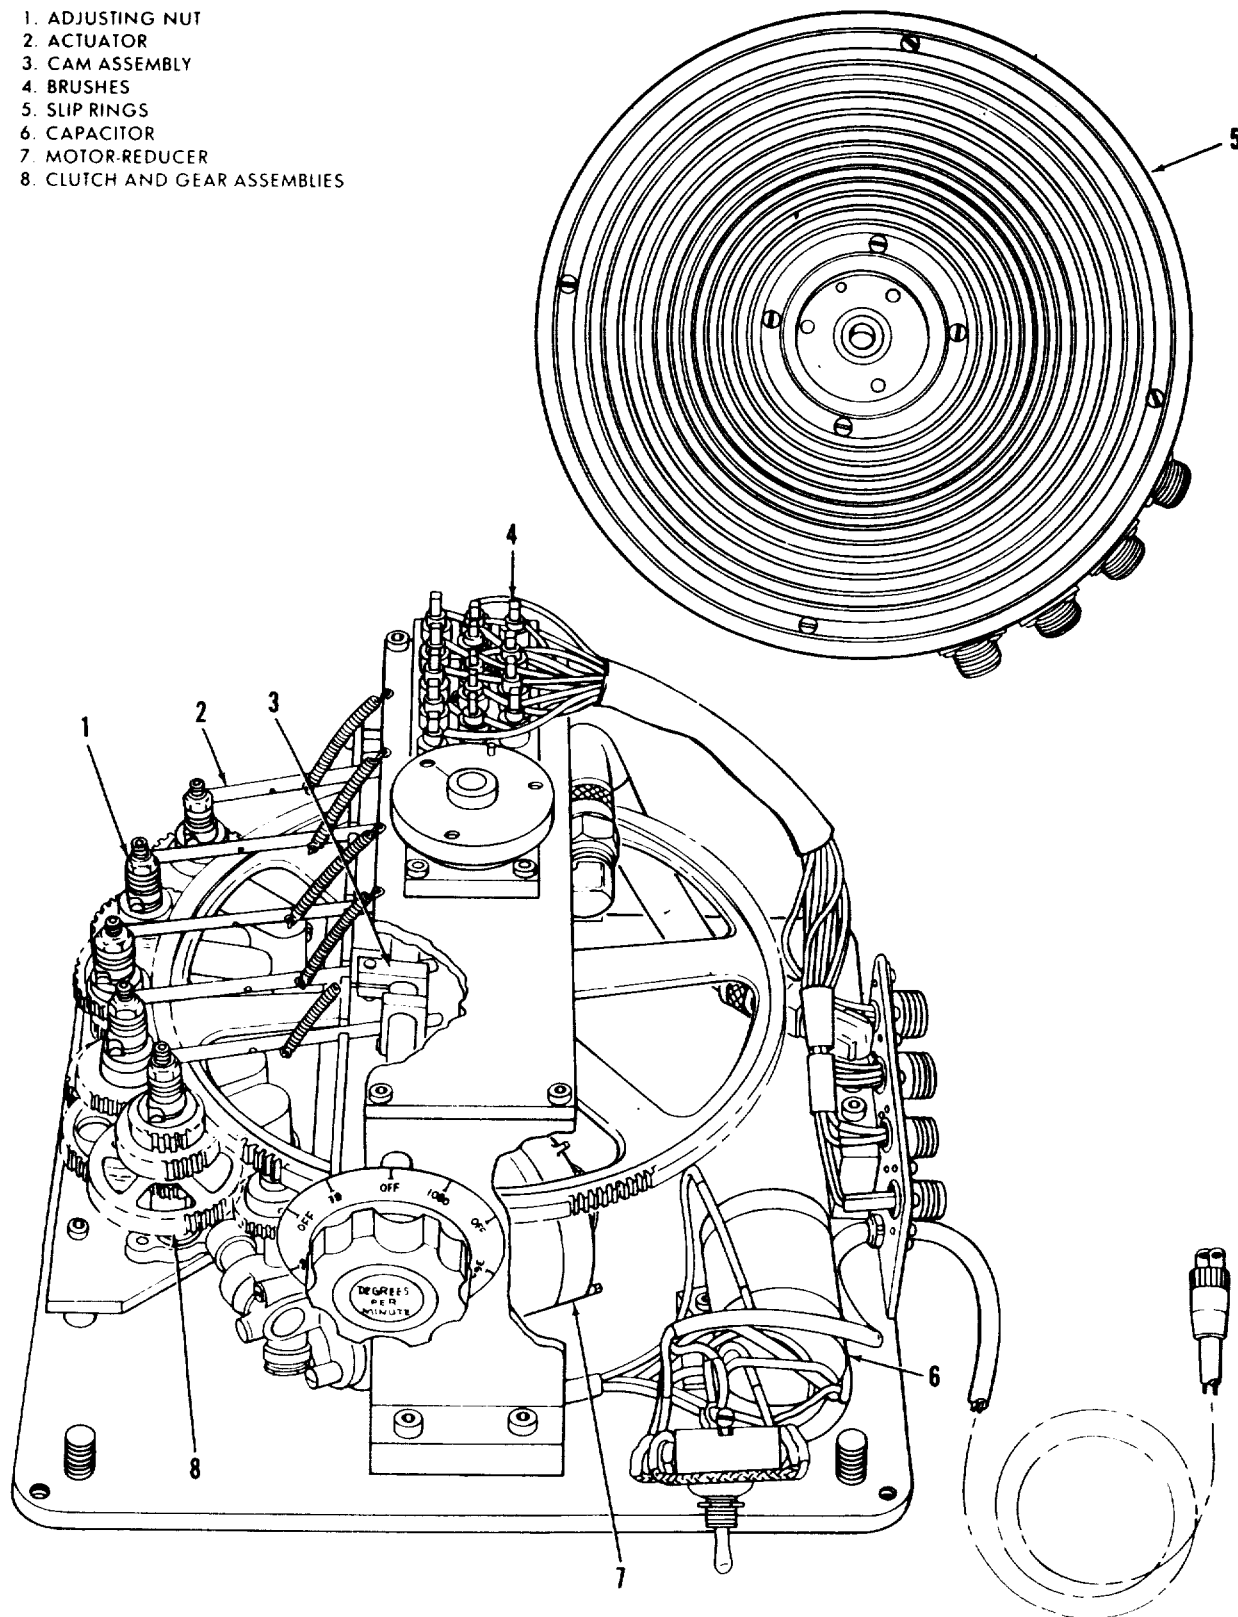

Figure 2. Tester kit instrument-interior.
a. *L-R Switch.* The L--R switch (9, fig. 1) provides a means of reversing the direction of tester kit instrument travel and also acts as a power switch to turn the motor-reducer (7, fig. 2) off.
b. *Speed Selector Knob.* The speed selector knob (10, fig. 1) provides a ready indication of the rate of turn in degrees per minute to which the tester kit instrument is set. The knob further provides a means of engaging portions of the clutch and gear assemblies (8, fig. 2) necessary to operate the tester kit instrument at a given rate of turn. The knob has alternate OFF positions between the rate of turn positions to disengage the motor-reducer from the tester kit instrument.